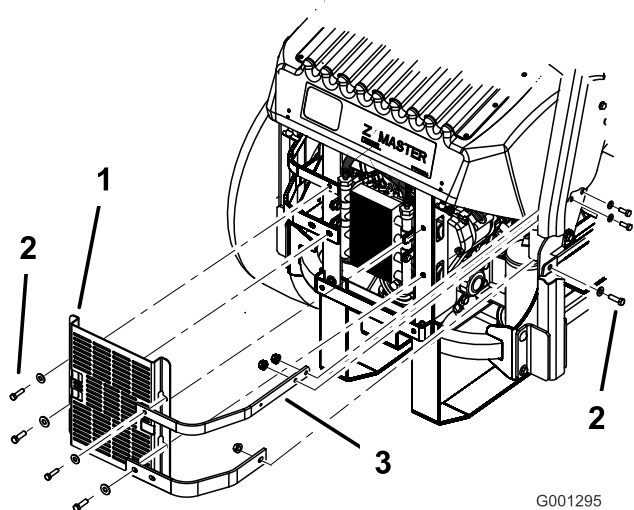

Figure 63
3. Remove the 4 bolts holding the oil cooler shield to the rear frame (Figure 63).
4. Remove the 3 bolts holding the engine straps to the side of the machine (Figure 63).
- Install the oil cooler shield and engine straps to the rear frame with the 4 bolts previously removed (Figure 63).
- Install the engine straps to the side of the machine (Figure 63).